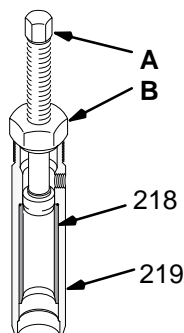

Fig 36-4
9. Screw the large nut (B) of the tool into the top of the cylinder (219). Screw down the rod (A) to push the sleeve out. Remove the tool. See Fig 36-4.